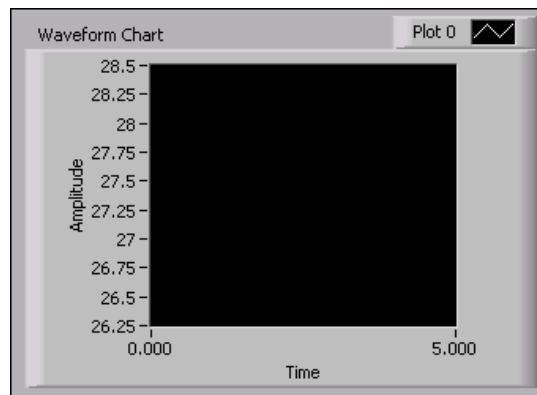

Figure 10.12
1. Open a blank VI and build the front panel shown in Figure 10.12 by placing a waveform chart, located on the Controls»Graph Indicators palette, on the front panel.